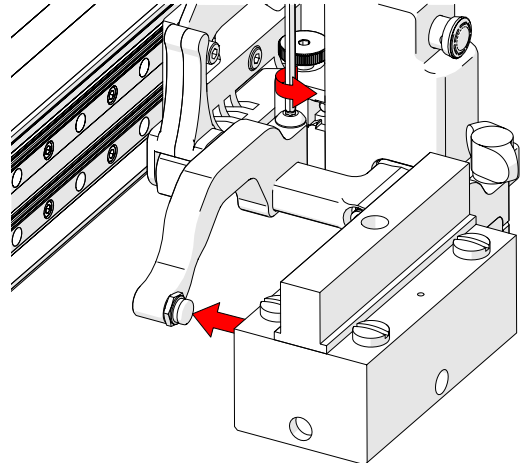

Fig. 114 - Adjust inner arm
4. Loosen the arm clamp screw (Fig. 114).
5. Place the wedge on the pivot button of the inner probe holder arm (Fig. 114).